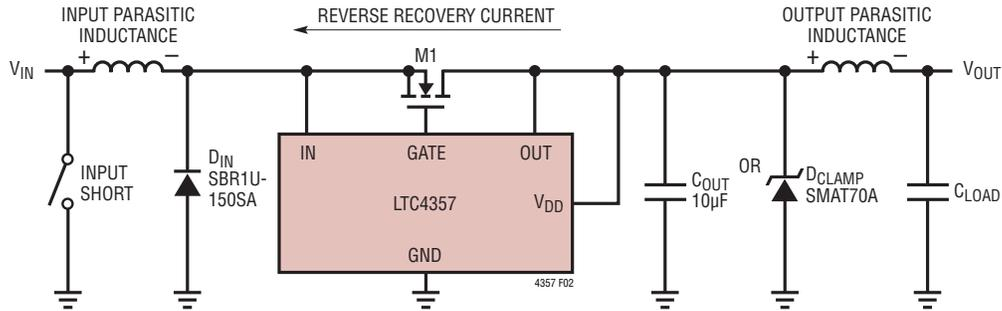

Figure 2. Reverse Recovery Produces Inductive Spikes at the IN and OUT Pin. The Polarity of Step Recovery Spikes is Shown Across Parasitic Inductances
*SEE FIGURES 2 AND 3 FOR ADDITIONAL OPTIONAL COMPONENTS